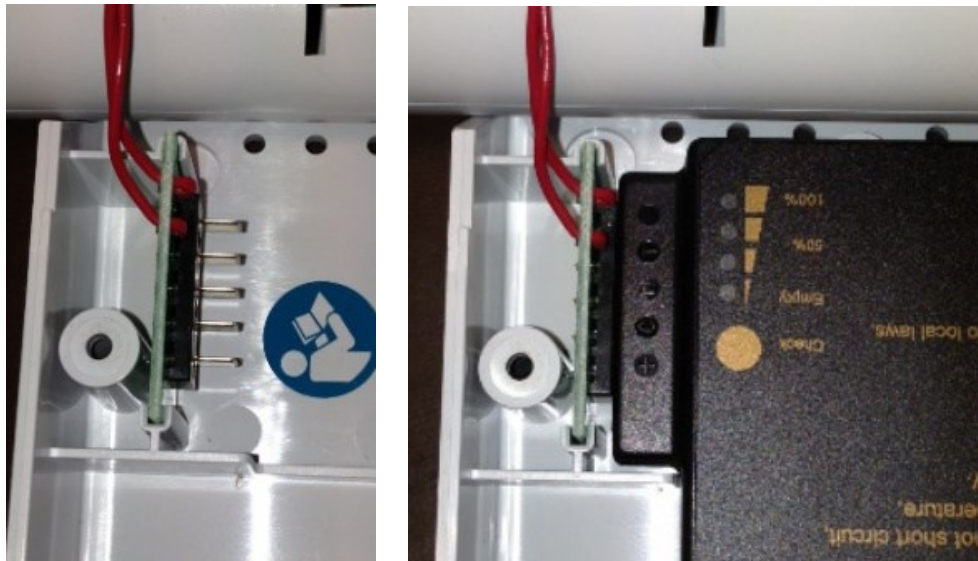

Figure 56: Battery Connector Orientation
- 2) If the battery connector was removed from the cover, make sure the battery connector is aligned as illustrated in Figure 56.
- 5) Push the battery sideways for a firm connection to the battery connector and lower the battery into the battery cover. Refer to Figure 56.